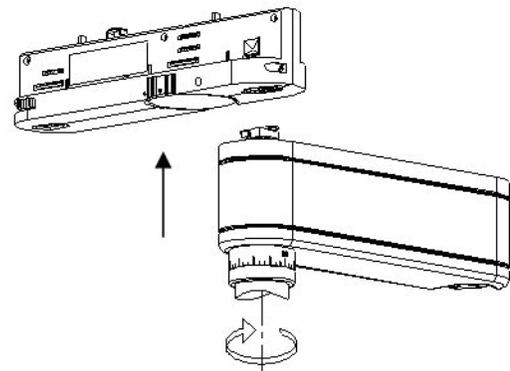

FIG 10A: J TRACK HEAD TO BE INSERTED
1. J track head insert converter(Fig 10a).